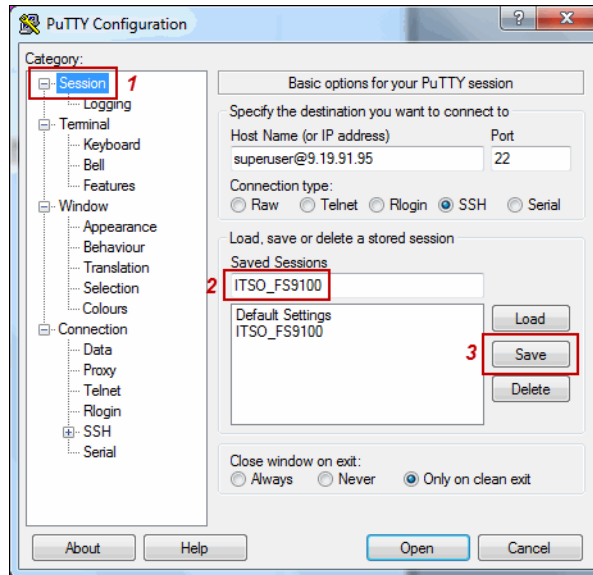

Figure 8-12 Save PuTTY session for use with plink
- Complete saving the session (Figure 8-12) by returning to the Session Panel (1), confirming the session name (2), and clicking **Save** (3).